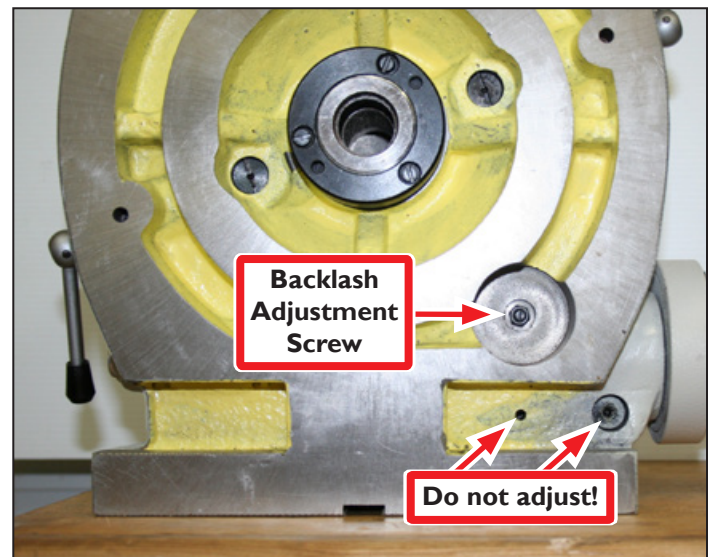
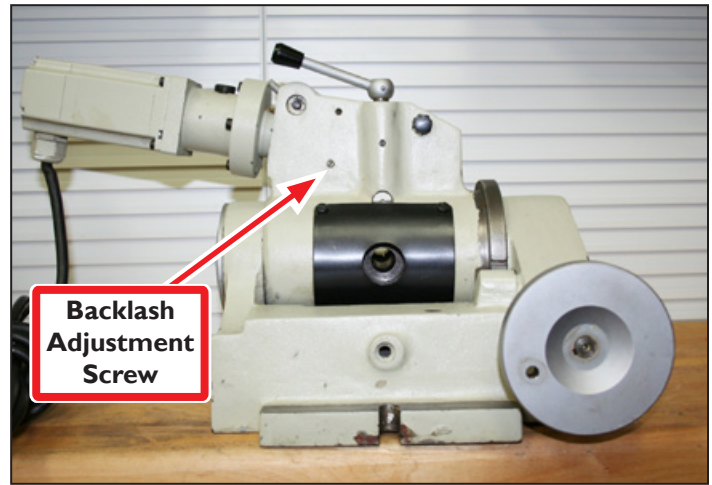
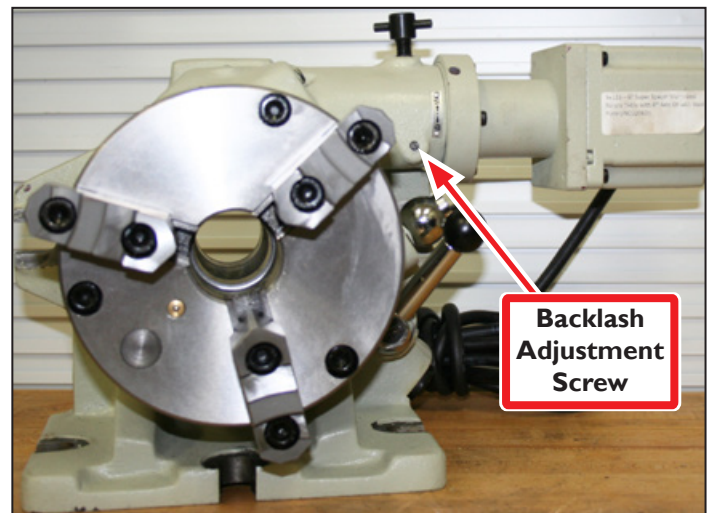

Figure 26
Figure 27
Figure 28
1. Backlash is adjusted by positioning of the Backlash Adjustment Screw. For the Standard Table, see **Figure 26**; for the Tilting Table, see **Figure 27**; and for the Super Spacer Table, see **Figure 28**.